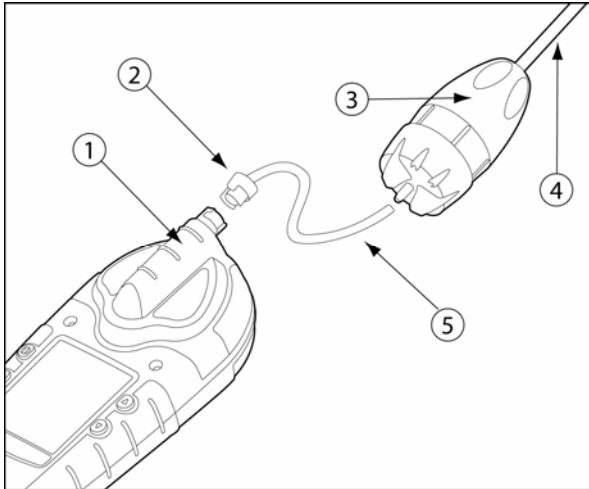

Figure 7. Attaching the Sample Probe
2. Make all of the required connections as illustrated in Figure 7.
To insert the MMC/SD card into the detector, refer to Table 15, Figure 7, and the following procedures.